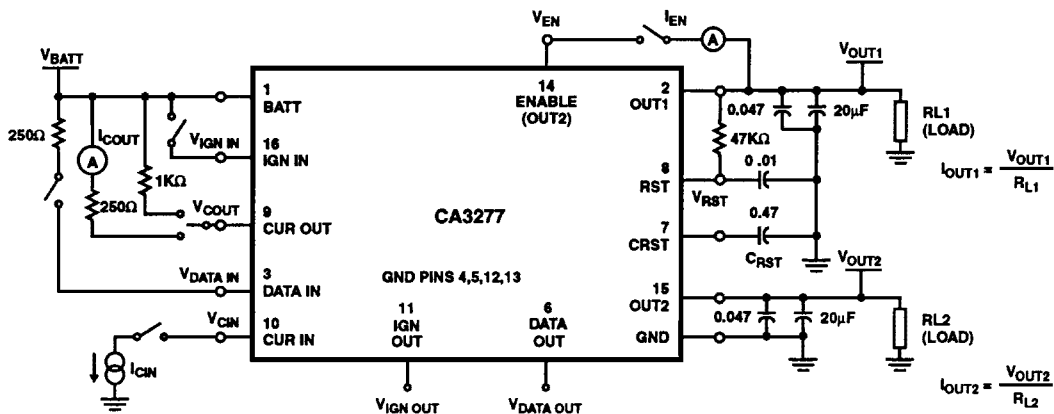

FIGURE 4. CHARACTERISTIC EVALUATION AND TEST CIRCUIT
**Electrical Specifications**  $T_A = -40^\circ\text{C}$  to  $+85^\circ\text{C}$ ,  $V_{BATT} = 13.5\text{V}$ , ENABLE ON ( $V_{EN} = 3.5\text{V}$ ), IGN IN connected to BATT, OUT1 and OUT2 bypassed with 20μF to GND, DATA IN connected through 250Ω to BATT, LOADS: OUT1 = 50mA, OUT2 = 80mA; Unless Otherwise Specified (Refer to Figure 4 Test Circuit)
**Electrical Specifications**  $T_A = -40^{\circ}\text{C}$  to  $+85^{\circ}\text{C}$ ,  $V_{\text{BATT}} = 13.5\text{V}$ , ENABLE ON ( $V_{\text{EN}} = 3.5\text{V}$ ), IGN IN connected to BATT, OUT1 and OUT2 bypassed with  $20\mu\text{F}$  to GND, DATA IN connected through  $250\Omega$  to BATT, LOADS: OUT1 = 50mA, OUT2 = 80mA; Unless Otherwise Specified (Refer to Figure 4 Test Circuit) (Continued)